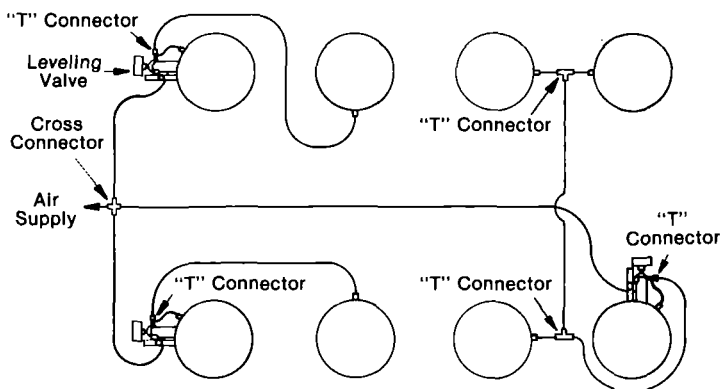

Figure 2
2. Attach the leveling valves to the brackets of the legs and tighten the thumbscrews. Only three leveling valves are supplied for each system, because a plane is defined by three points. Two of the valves have an elbow connector, and one has a tee connector. Turn all the metering valves off clockwise. (See Fig. 2, page 6)
11. The leveling valves are factory adjusted. If necessary, the flatness of the floor can be compensated by adjusting knob (L) of the leveling valves (see Fig. 2) so that the restraint plate floats about midway between the restraint stops. Adjustment of all three valves may be necessary to raise any one corner.